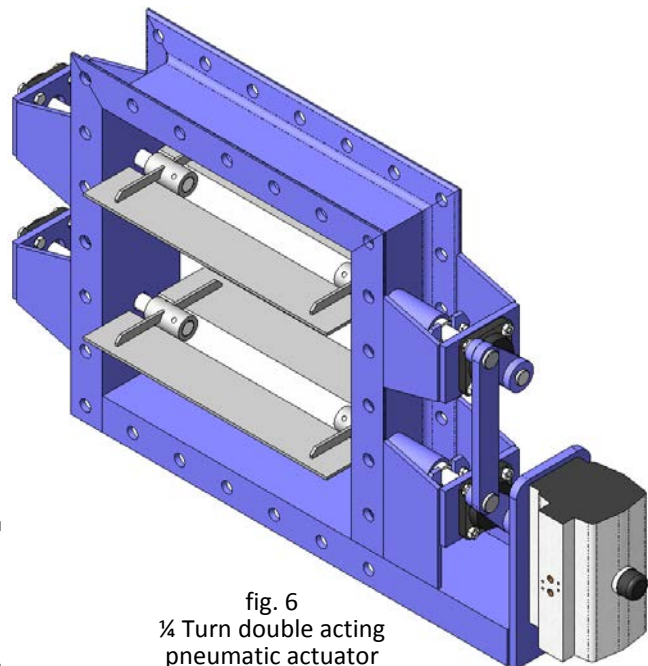

fig. 6
- The most common in this type of damper butterfly are ¼-turn (fig. 6 and 7). These are mounted directly on the actuator shaft.